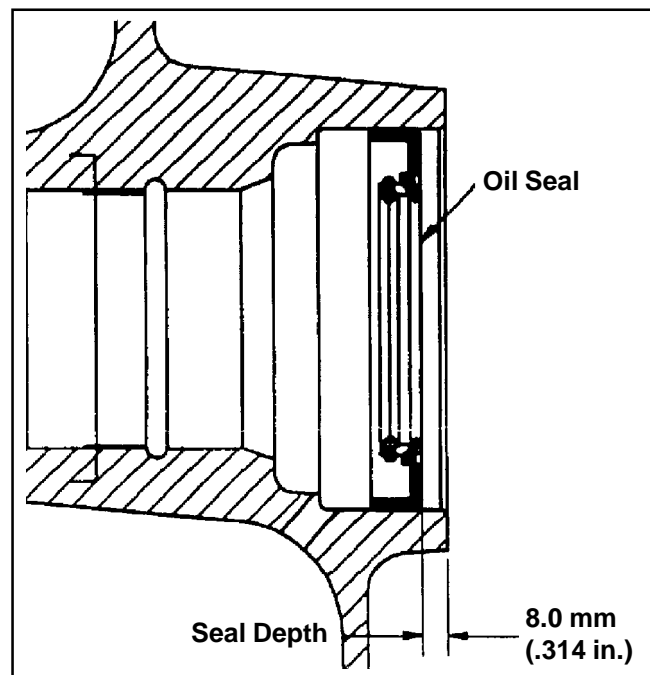

Figure 11-18. Oil Seal Depth in Closure Plate.
3. Drive the oil seal into the closure plate using a seal driver. Make sure the oil seal is installed straight and true in the bore to the depth shown in Figure 11-18.